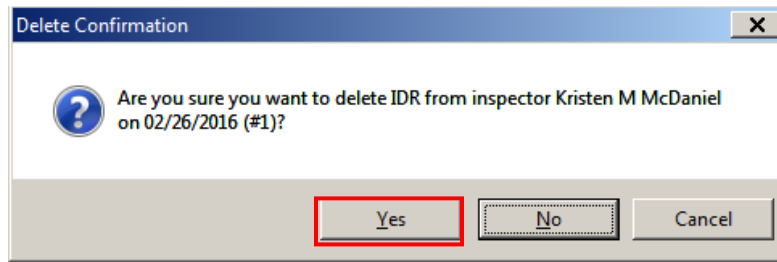

Figure 7-17. IDR Delete Confirmation Window
- Click the **Yes** button on the Delete Confirmation message (Figure 7-17).